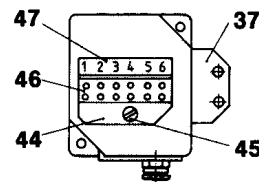

Fig. 5
1. b) Screw the base plate (44) into the terminal box lower part (39) using the counter-sunk screws (45). Attach the 2, 4 or 6-pole terminals (46) using cap screws (48) onto the base plate (44). Stick the terminal identification code (47) onto the base plate (44) (observe the terminal identification code according to Fig. 5).
3. Screw the holding bracket (37) using the cap screws (49) to the brake rear side.
4. Re-tighten the brake coil cable, and tighten the hexagon nuts (42).
6. Close the terminal box, observing the sealing ring (51) and the sealing washers (53).